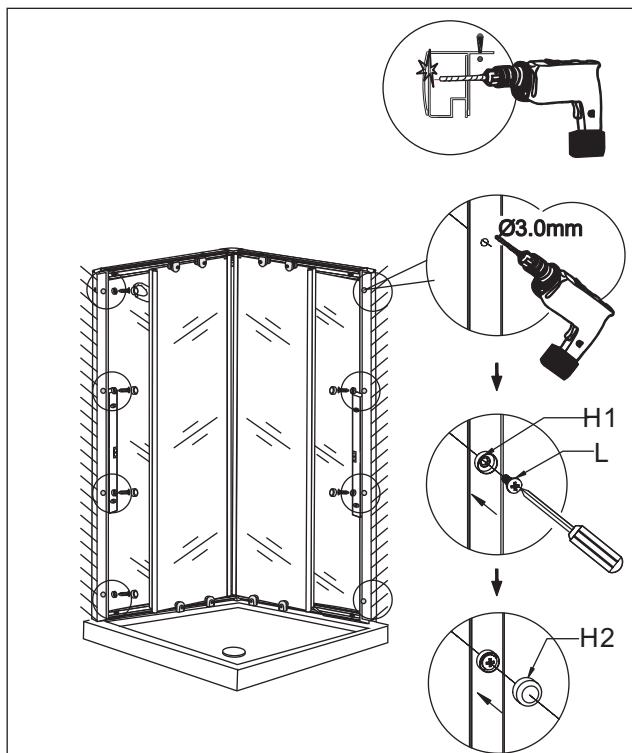

Fig.16
16c. Secure the profiles using screws ST4x12mm (L) and screw cap washers (H1). Cover with screw caps (H2) as per **Fig.16**.